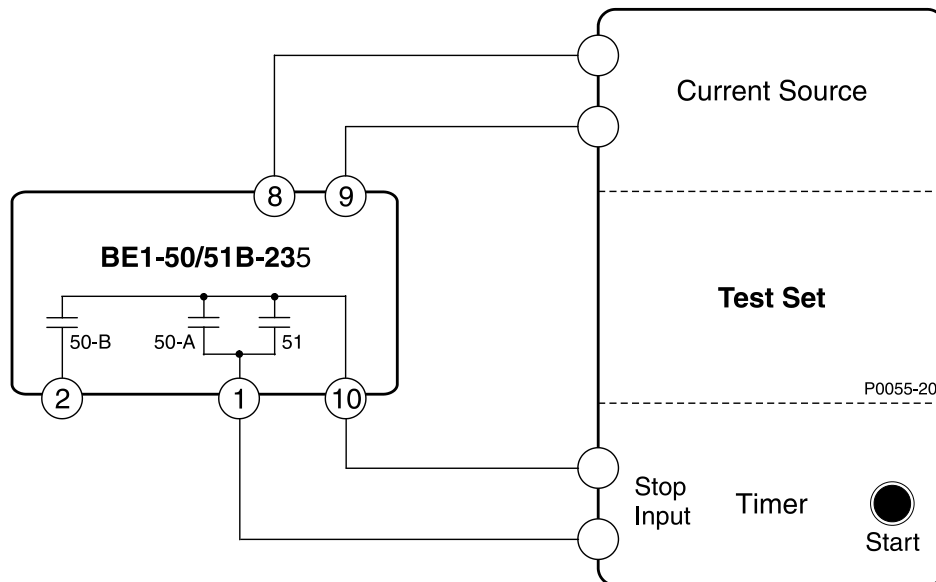

Figure 5-1. 51 Pickup, Time Dial, Integrating Reset, and 50-A Pickup Test Setup
The following test procedures verify operation of the BE1-50/51B-235 and BE1-50/51B-236 relays. The test setups illustrated in Figures 5-1 through 5-6 are intended primarily as an illustration of the principles involved. Other test equipment known to be capable of testing with the stated and implied tolerances (including equipment designed specifically for testing protective relays) may be used.
- a. Connect the test setup shown in Figure 5-1.
- a. Connect the test setup as shown in Figure 5-1.